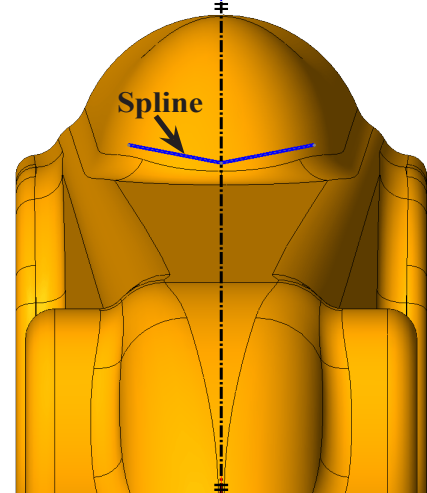

Fig. 141
Step 9. Click **Spline**  (S) on the **Sketch toolbar**.
Step 10. Draw **2 point** spline from centerline out into the cockpit at an angle, **Fig. 141**. **Right click drawing and click End Spline** from menu.